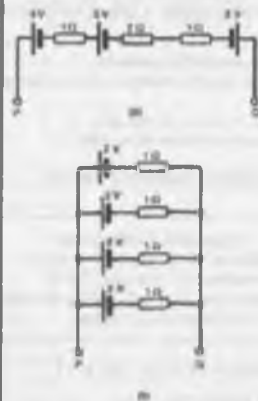

Figure 4.5
- For the circuits shown in Fig. 4.5 the resistors represent the internal resistance of the batteries. Find, in each case: